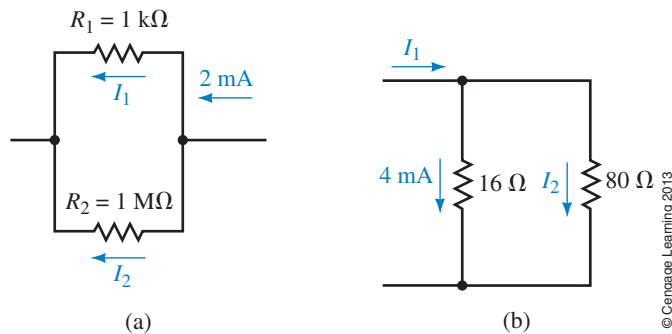

FIGURE 6-72
30. Repeat Problem 29 for the networks of Figure 6-72.